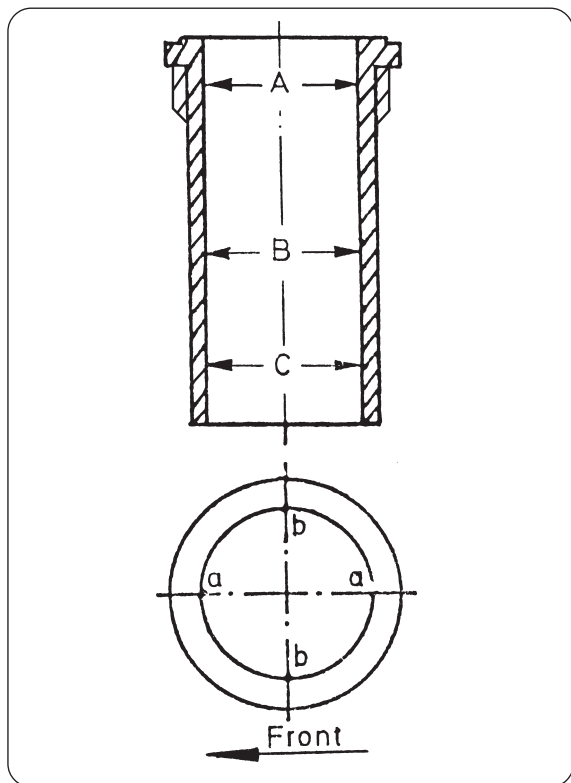

Fig. 10
Check the piston clearance in the sleeves using a 0.10 mm (0.004 inch) ribbon gauge 12 mm (0.005 inch) wide with a tension scale Fig.10 in the following manner;
Check cylinder sleeve wear before removal see fig.10.
2. INSPECTION AND REPAIR (See fig.10)
- a) With the sleeves in the crankcase measure the bores at the top (A) and the bottom (B&C) at 90° to the crankshaft to determine the amount of taper.